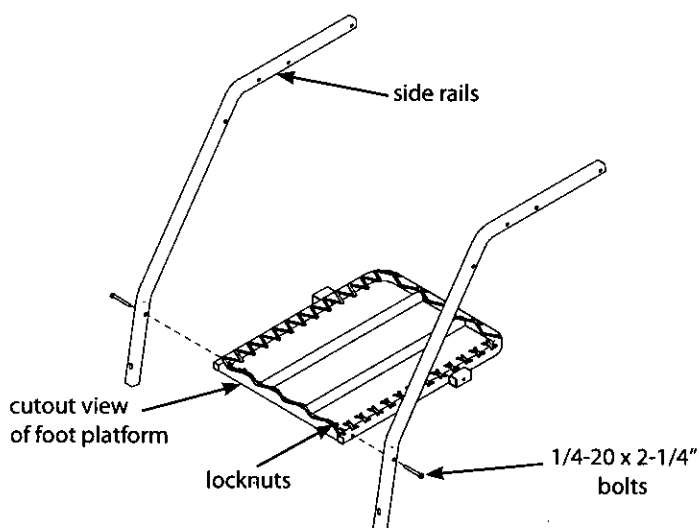

Figure 1
1. Attach the foot platform (48045) to the inside of side rails (1ML24) using (2) provided 1/4-20 x 2-1/4" bolts and locknuts. **SEE FIGURE 1. DO NOT tighten all nut & bolt assemblies completely!**